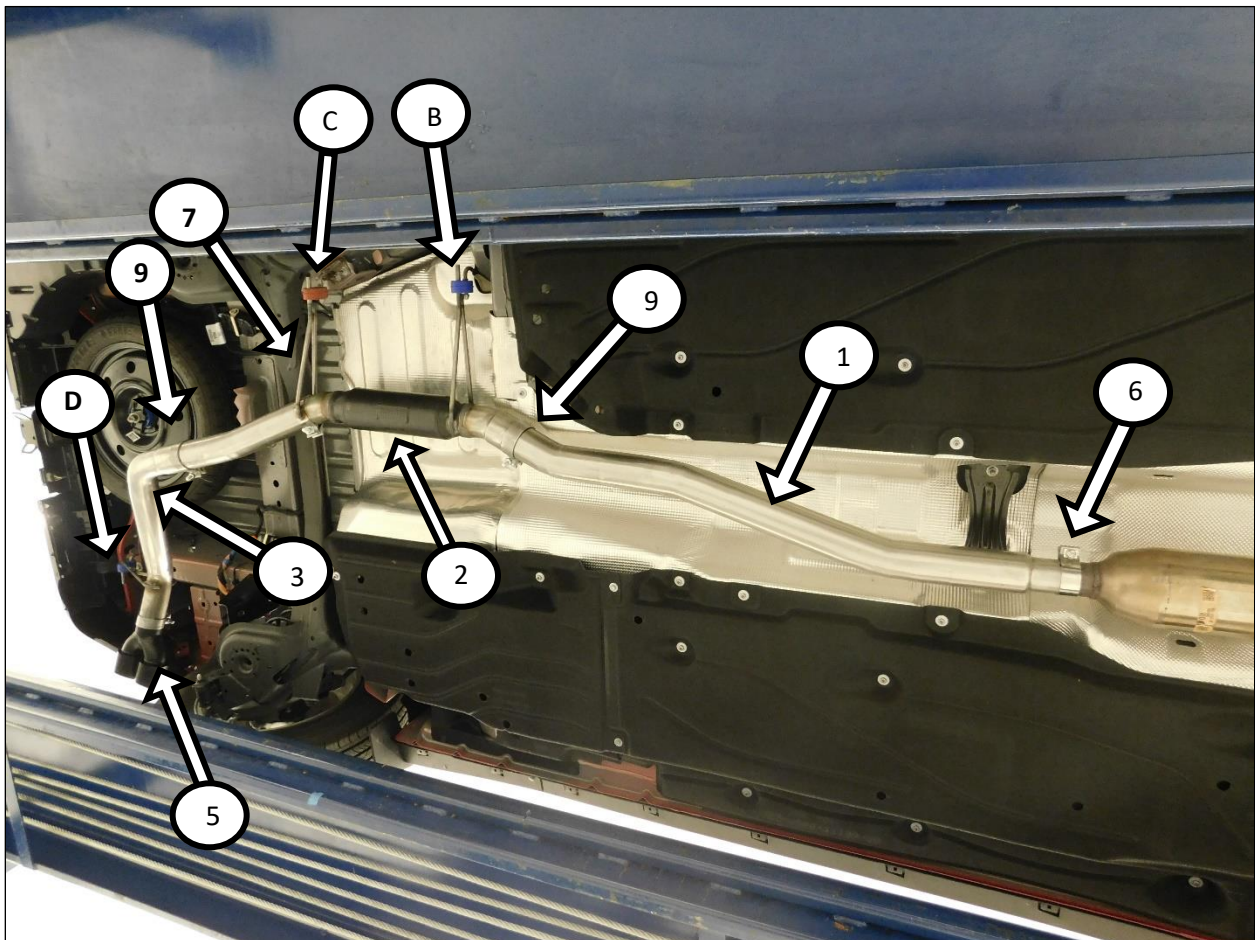
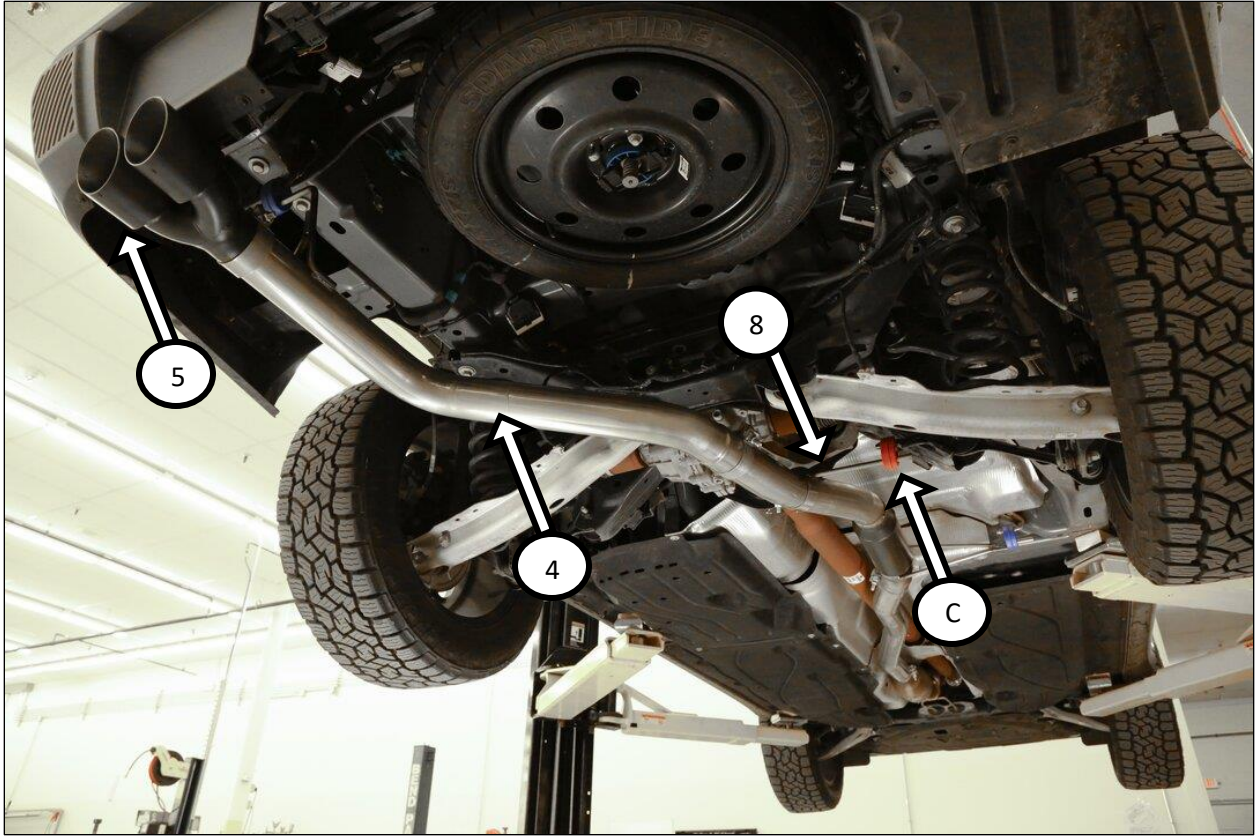

Figure 6 (Front Wheel Drive with Side Exit tailpipe shown)
Figure 7 (All Wheel Drive with Rear Exit tailpipe)
3. Install a supplied 3" band clamp (9) onto the expanded end of the muffler assembly (2) with the bolt to the inside and nut facing down.
4. Install the expanded end of muffler assembly (2) onto the inlet pipe (1). Install the blue rubber hanger rod isolator (B) and tighten the clamp enough to hold the pipe, but allow for adjustment.
5. Install the clamp hanger (7) for **Front Wheel Drive** vehicle installation or clamp hanger (8) for **All Wheel Drive** applications (Fig. 7). Install with the bolt to the inside and nut facing down. Align the hanger rod with the factory muffler hanger and install the orange hanger rod isolator (C). Tighten the clamp enough to hold the pipe, but allow for adjustment.
7. Install the side exit tailpipe (3) Shown (Fig. 6) or the rear exit tailpipe (4) See Fig. 7. Install the blue rubber isolator on to the hanger rods at the rear of the car (D).